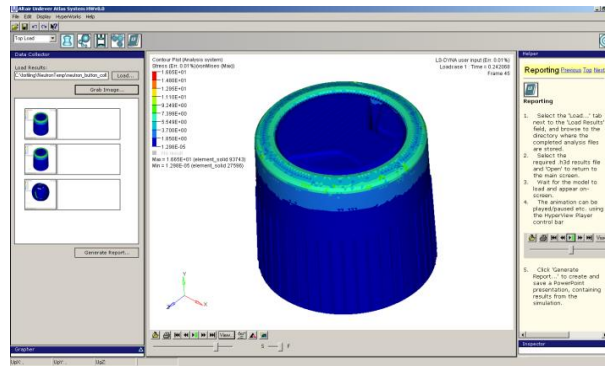

**Figure 9: Typical Drop Simulation Including Detailed Fluid Structure Interaction**
- iv) Pallet Collation simulation [Figure 9]: representation of the entire primary, secondary and tertiary packaging system and simple selection of transportation excitation load cases. Rapid exploration of different pallet stack configurations is available with results ranging from whole stack stability to individual primary pack loads.